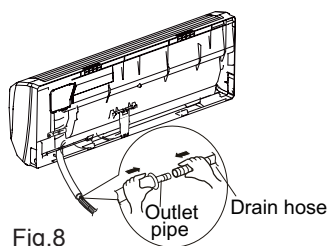

Fig.8
(1) Connect the drain hose to the outlet pipe of indoor unit.(As show in Fig.8)